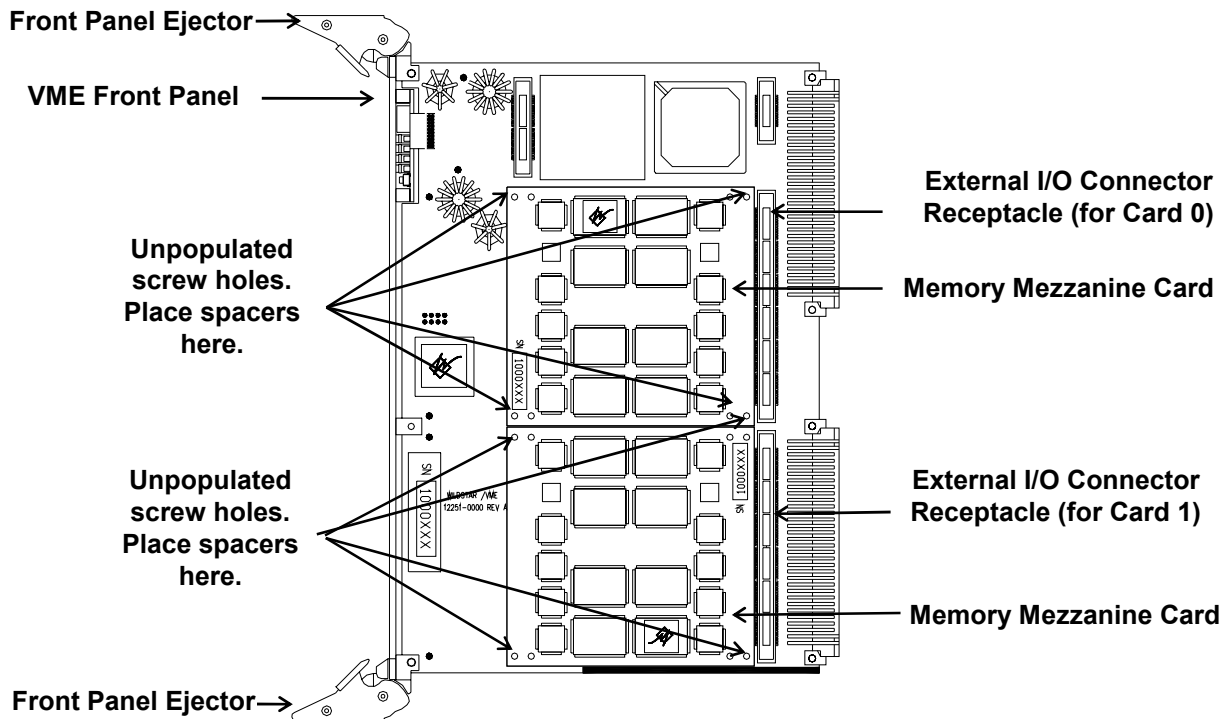

Figure 4-2: WILDSTAR™/VME Board with Memory Mezzanine Cards (Component Side)
4. Use the WILDSTAR™/VME ejectors to release the board from the slot (see Figure 4-2).
8. Place four mezzanine spacers over unpopulated screw holes atop the memory mezzanine card (see Figure 4-2 for location of memory cards and screw holes). Screws for these holes will go into the standoffs below the outer four corners of the memory card.
5. Use the WILDSTAR™/VME ejector handles to release the board from the slot (see Figure 4-2).